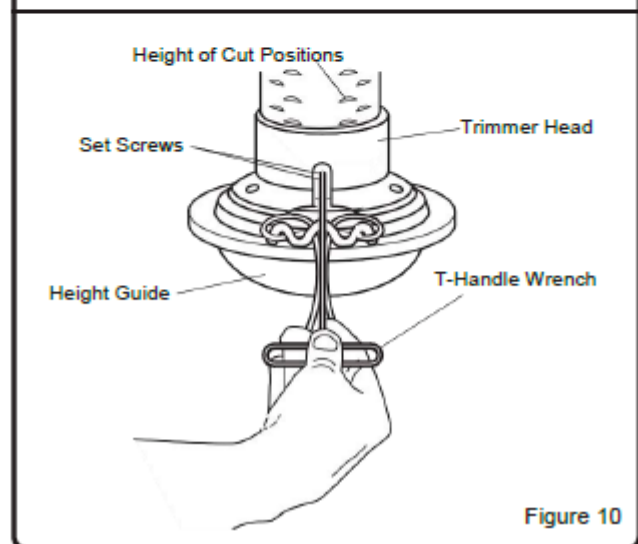

Figure 10
1. Use the T-wrench provided to loosen the adjustment screws – see Figure 10.